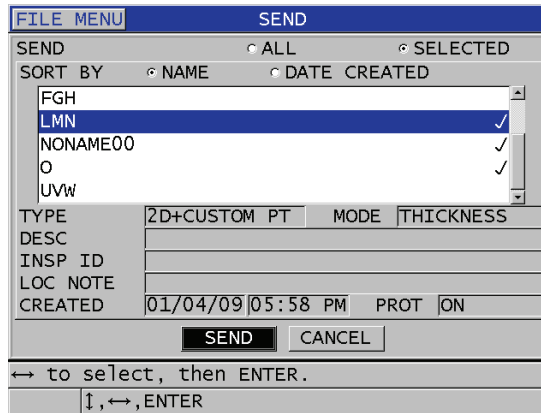

Figure 14-3 Selecting a file to send
4. In the **SEND** screen (see Figure 14-3 on page 241):